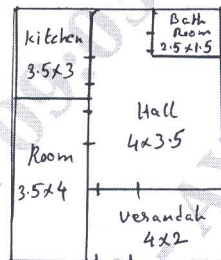

Fig.Q3(b)
- The Fig.Q3(b) shows the plan of a dwelling house which is to be wired in open conduit system for providing lighting outlets only.